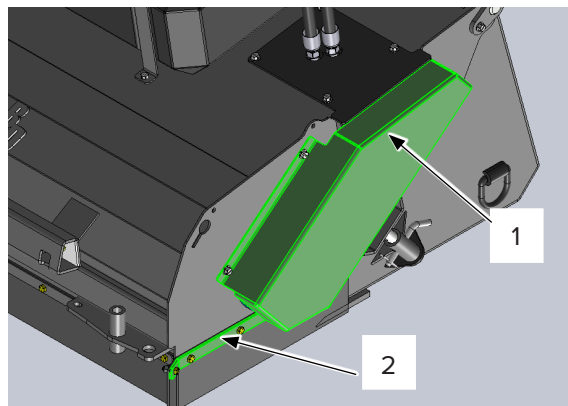

Figure 4
4. Remove the chain cover [Figure 4, Item 1] and side rubber skirt retainers [Item 2].
4. Remove the chain cover ["Figure 4" on page 20, Item 1].
4. Remove the chain cover [“Figure 4” on page 20, Item 1].
5. Remove the chain cover [“Figure 4” on page 20, Item 1].